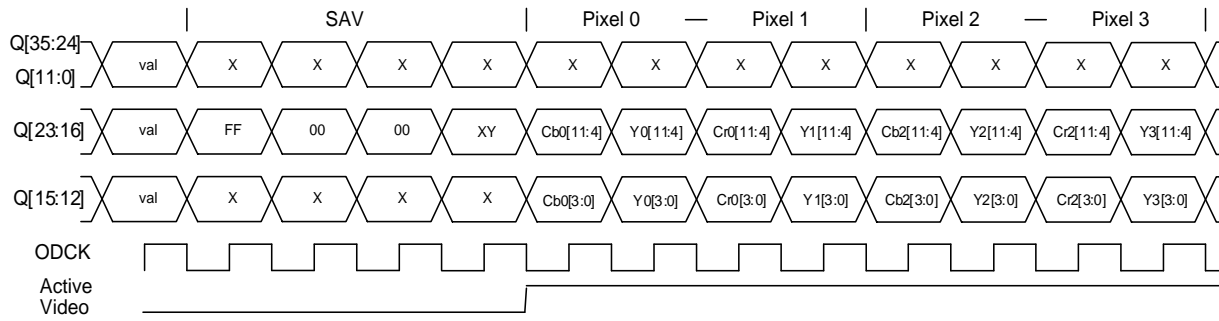

Figure 7.9. YC Mux 4:2:2 Embedded Sync Encoding Timing Diagram
This mode is similar to that on page 53, but with embedded syncs. It is similar to YC 4:2:2 with embedded syncs, but also multiplexes the luminance (Y) and chrominance (Cb and Cr) onto the same pins on alternating pixel clock cycles. Normally this mode is used only for 480i, 480p, 576i and 576p modes. Output clock rate is half the pixel clock rate on the link. SAV code is shown before rise of DE. EAV follows the falling edge of DE. See the ITU-R BT.656 Specification for more information. 480p 54 MHz output can be achieved if the input differential clock is 54 MHz. Figure 7.9 on the next page shows OCLKDIV = 0 and OCKINV = 1.